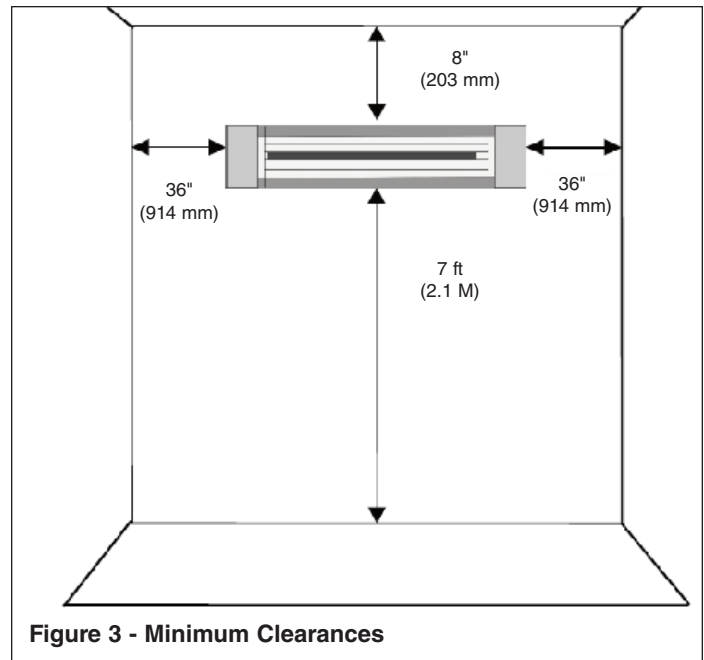

Figure 3 - Minimum Clearances
2. This heater is hot when in use. To avoid burns, do not let bare skin touch hot surfaces. Keep combustible materials, such as furniture, pillows, bedding, papers, clothes, etc. and curtains at least 7 ft (2.1 M) from the front of the heater. See Fig. 3 for installation clearance requirements.
4. This heater is intended for fixed mounting to wall or other stationary structure only. Use the mounting bracket provided with heater - See Fig. 2. Heater must be mounted at least 7 feet (2.1 M) off floor. Do not mount heater to ceiling. Top of heater must be located at least 8" (203 mm) from the ceiling with ends at least 36" (914mm) from walls. – See Fig. 3
TO AVOID A POSSIBLE FIRE DO NOT PLACE ANY OBJECTS CLOSER THAN 7 FT (2.1 M) IN FRONT OF HEATER AND 36" (914 MM) FROM SIDES - SEE FIG. 3 FOR ADDITIONAL CLEARANCE REQUIREMENTS..